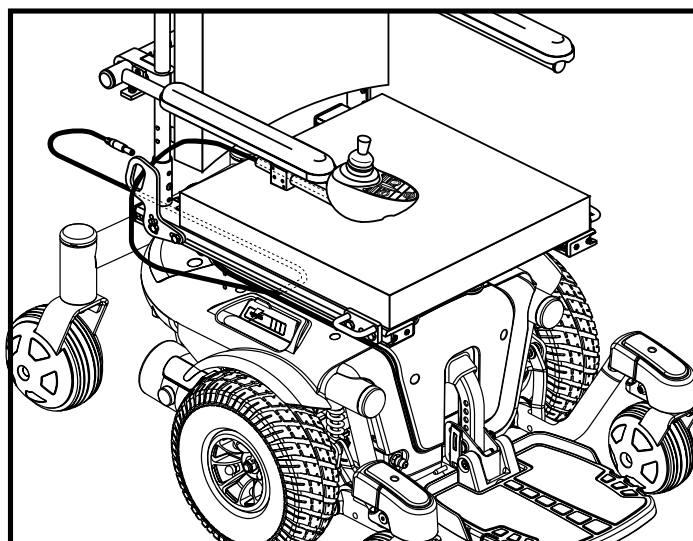

Figure 12. Controller Routed on a Synergy Seat
4. Install the controller and route the cable to the back of the power base. See figure 12.